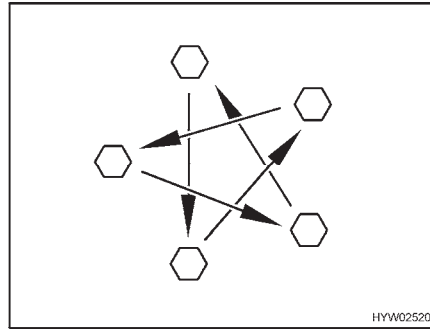

Fig. 159 Tighten the wheel nuts or wheel bolts cross-wise
- Check regularly that the wheel nuts or wheel bolts are firmly seated. Re-tighten the wheel nuts or wheel bolts of a changed wheel cross-wise (Fig. 159) after 50 km (30 miles).